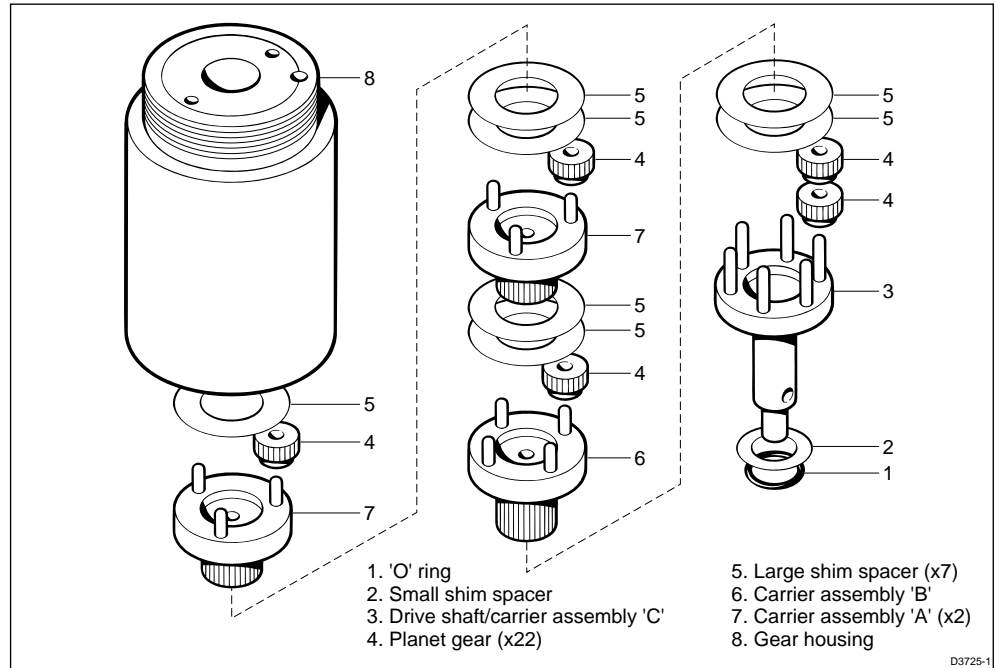

Figure 8. Gearbox exploded view
1. Rebuild gearbox. Refer to Figure 8. Gearbox exploded view
2. Fix the gearbox (23) to the back mounting plate assembly (2) using the four gearbox retaining screws (22).
3. Slide the two shims (20) over the gearbox drive shaft/gear carrier 'C' (21) and hard up against the back mounting plate assembly (2).
4. Support the gearbox drive shaft/gear carrier 'C' (21) and refit the pin (19).
**Note:** If the original pin (19) is bent or damaged a replacement pin can be obtained from pinion kit, part no. N014.